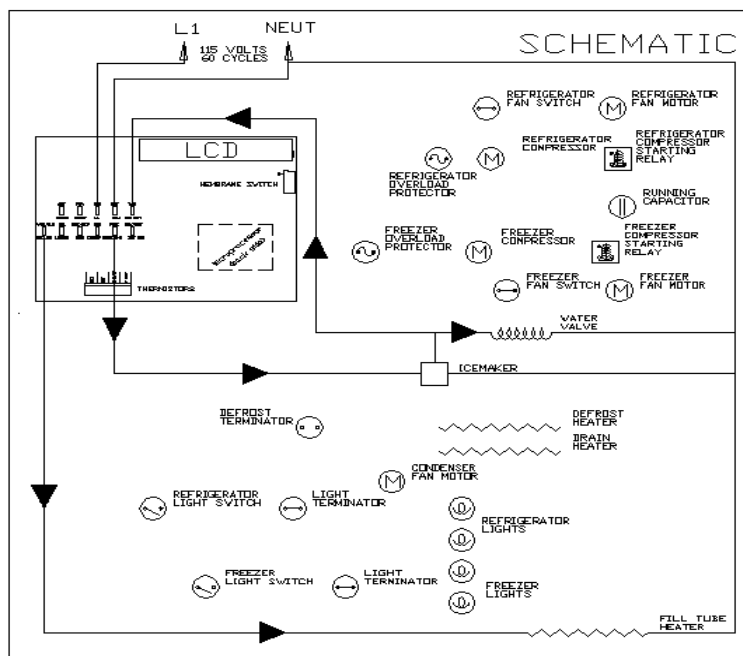
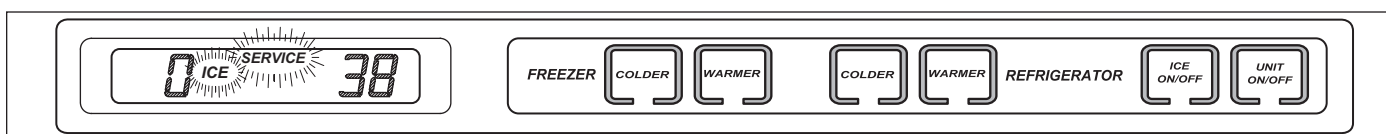

Figure 3-16. Water Valve Monitored.
Figure 3-17. ICE and SERVICE Indicators Flashing = Water Valve Energized Too Long
The microprocessor monitors the voltage supplied to the icemaker water valve (See Figure 3-16). If the water valve is energized for more than fifteen (15) seconds, power to the icemaker system is interrupted, and a signal is sent to the SERVICE and ICE indicators on the LCD to flash (See Figure 3-17).